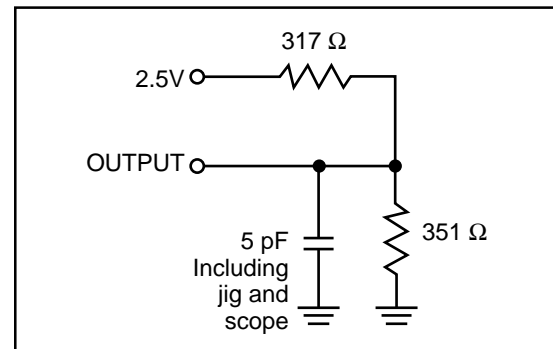

Figure 2
3. Tested with the load in Figure 2.